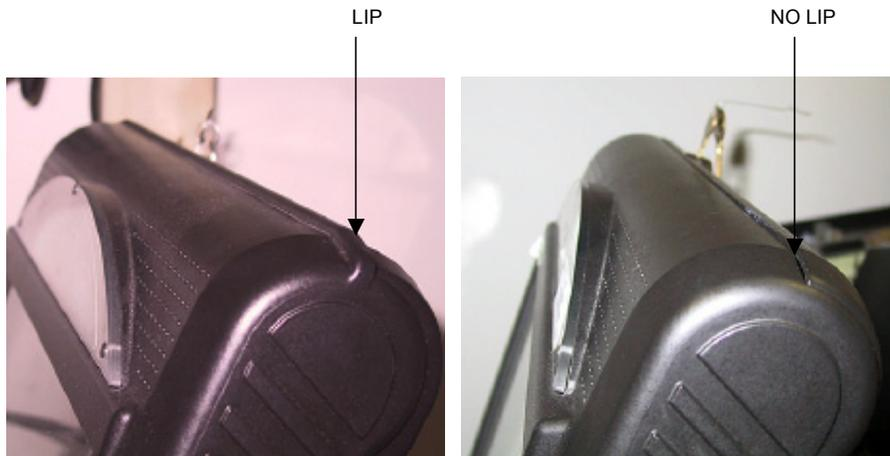

FIGURE 1 – COUNTERTOP CABINET COMPARISON
**NOTE:** This manual contains separate instructions for the two distinct cabinet types pictured in Figure 1. If your game has a raised lip at the top, as shown at left in the figure, refer to the instructions beginning on page 2. If no lip appears at the top of your game, as shown at right in the figure, refer to the instructions beginning on page 6. All Ion games feature a raised lip, while FORCE games vary.